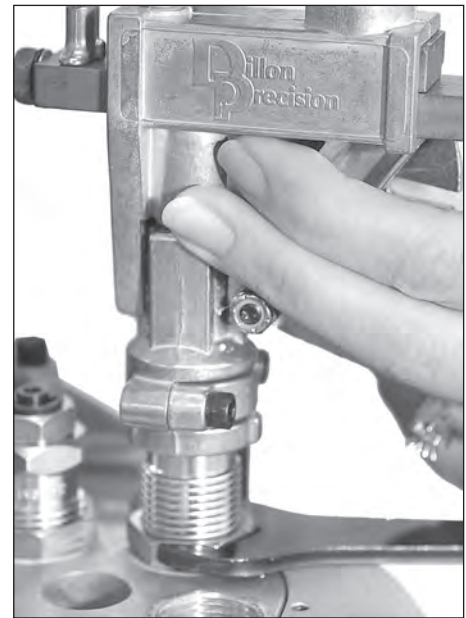

FIG 99
8. While holding the powder measure, snug the locking using a 1" wrench **FIG 99**. Now lower the platform.